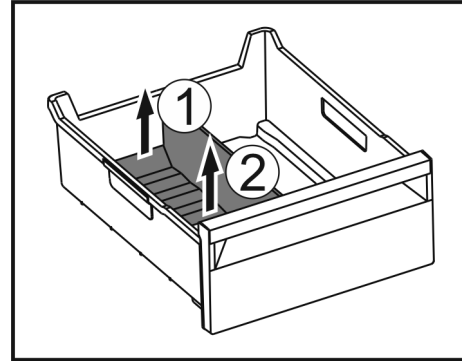

Fig. 147
- ▶ Lift the rear part of the ice compartment divider. Fig. 147 (1)
- ▶ Remove the ice compartment divider upwards. Fig. 147 (2)